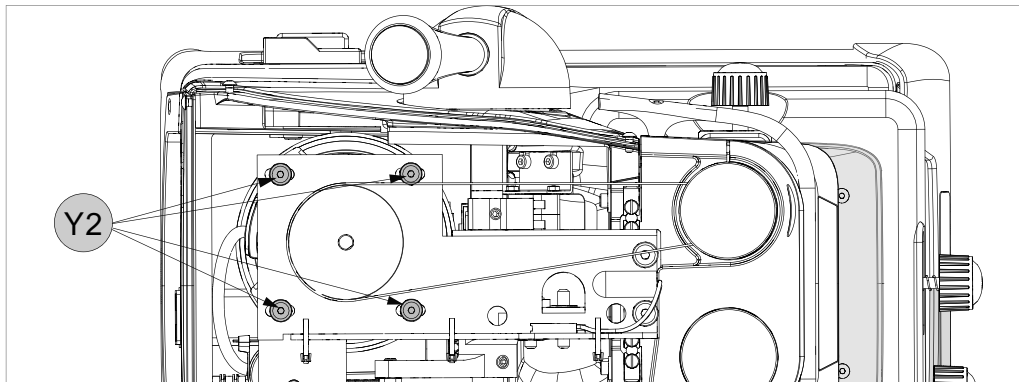

Fig. 36
- 2) Loosen the 6 screws (Y1) and remove the top safety guard (Y).
- 3) Loosen (without removing) the 4 allen screws (Y2) securing the motor (Fig. 36).